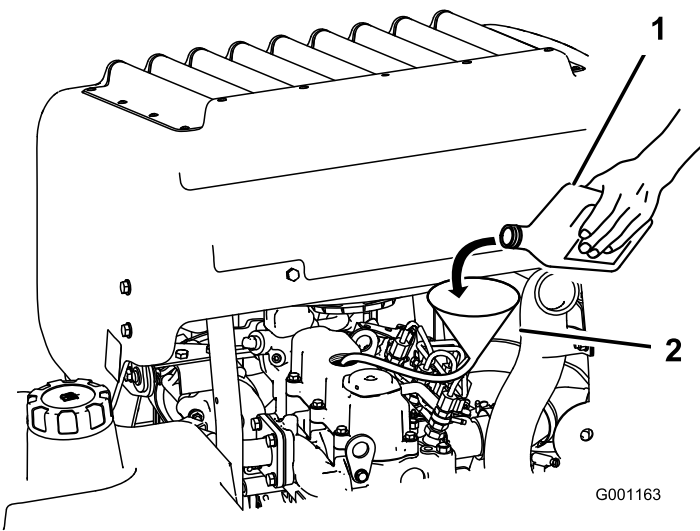

Figure 56
3. Use a hose and funnel to add oil to the engine (Figure 56).